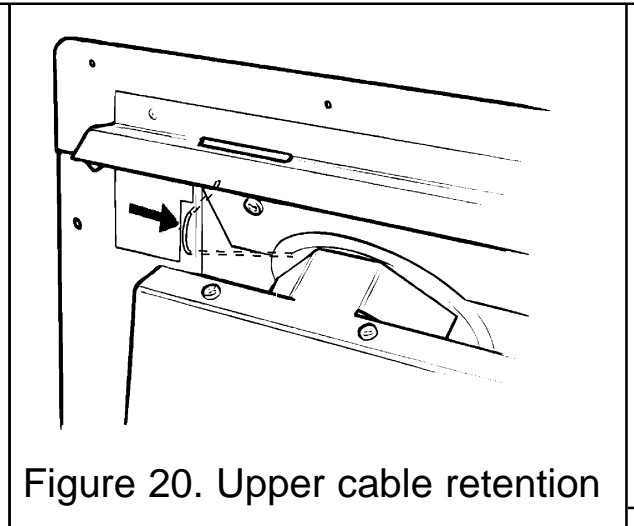

Figure 20. Upper cable retention
5. The convection box has two holes at each side of the convected air opening. Insert one end of each cable (one cable each side) from the back through the lower of the two holes and return the end through the upper of the holes. See figure 20. Give the cables a pull so that they grip against the convection box flanges.